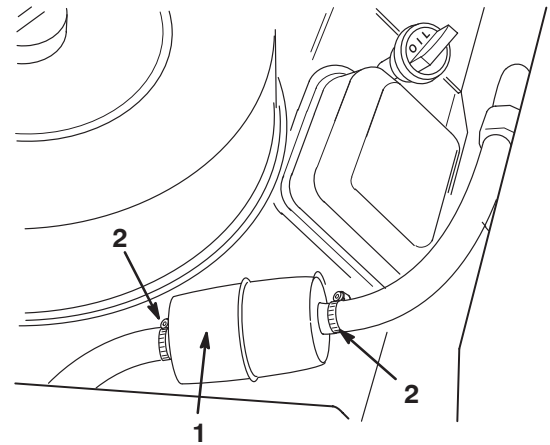

Figure 26
2. Close fuel shut off valve, loosen the hose clamp on the carburetor side of filter and remove the fuel line from the filter (Fig. 26).